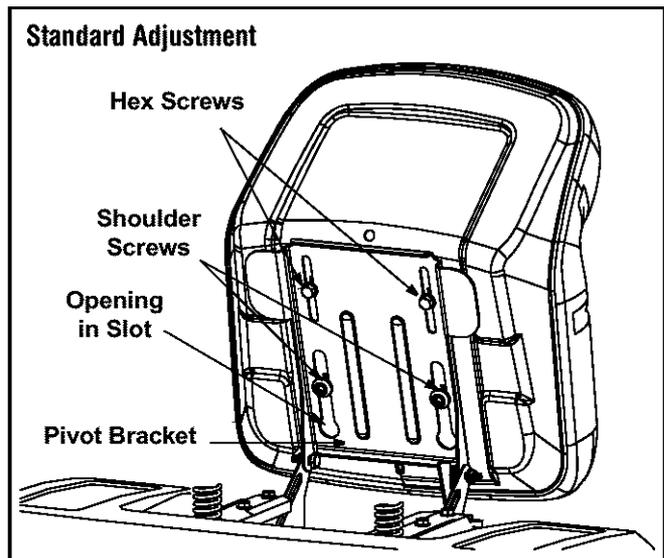
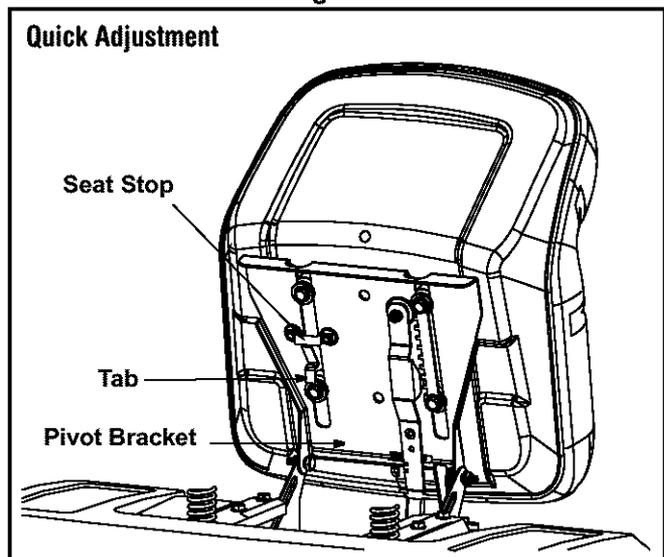
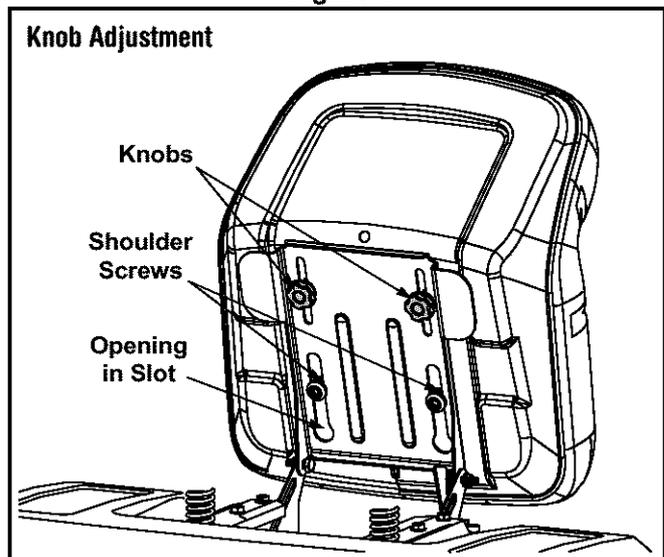

Figure 3
Figure 4
Figure 5
Refer to Figure 3, Figure 4 and Figure 5 to identify your tractor's seat style and follow applicable instructions below.
1. Position the shoulder screws (found on the base of the seat) inside the slot openings in the seat pivot bracket. Figure 3.
3. Select desired position for the seat, and secure with the two hex screws removed earlier. See Figure 3.
NOTE: If your seat was shipped mounted backwards on the seat pivot bracket, pull out the tab found on the seat stop and hold it open while sliding the seat off the seat pivot bracket. See Figure 4.
2. Slide seat in until front seat spacer engages the seat stop. See Figure 4.
1. Position the shoulder screws (found on the base of the seat) inside the slot openings in the seat pivot bracket. Figure 5.
3. Select desired position for the seat, and secure with the two knobs removed earlier. See Figure 5.